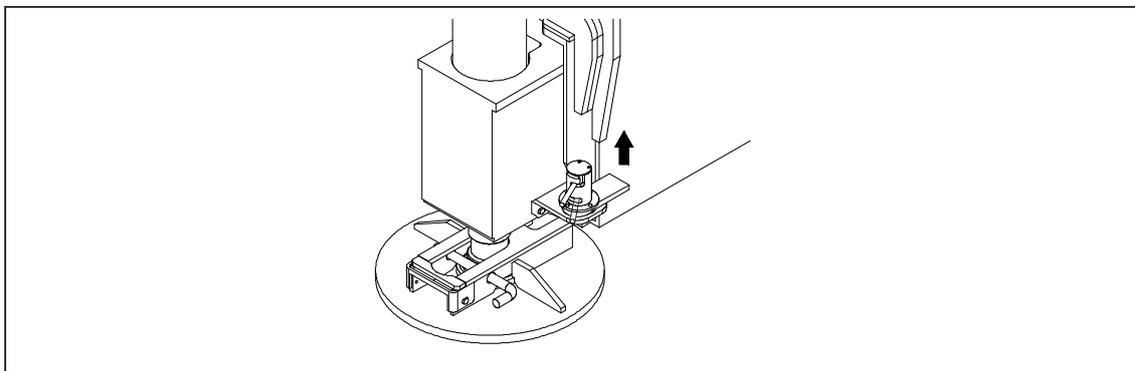

Fig. 04 – 16
- b) As illustrated in Fig. 04 – 17: